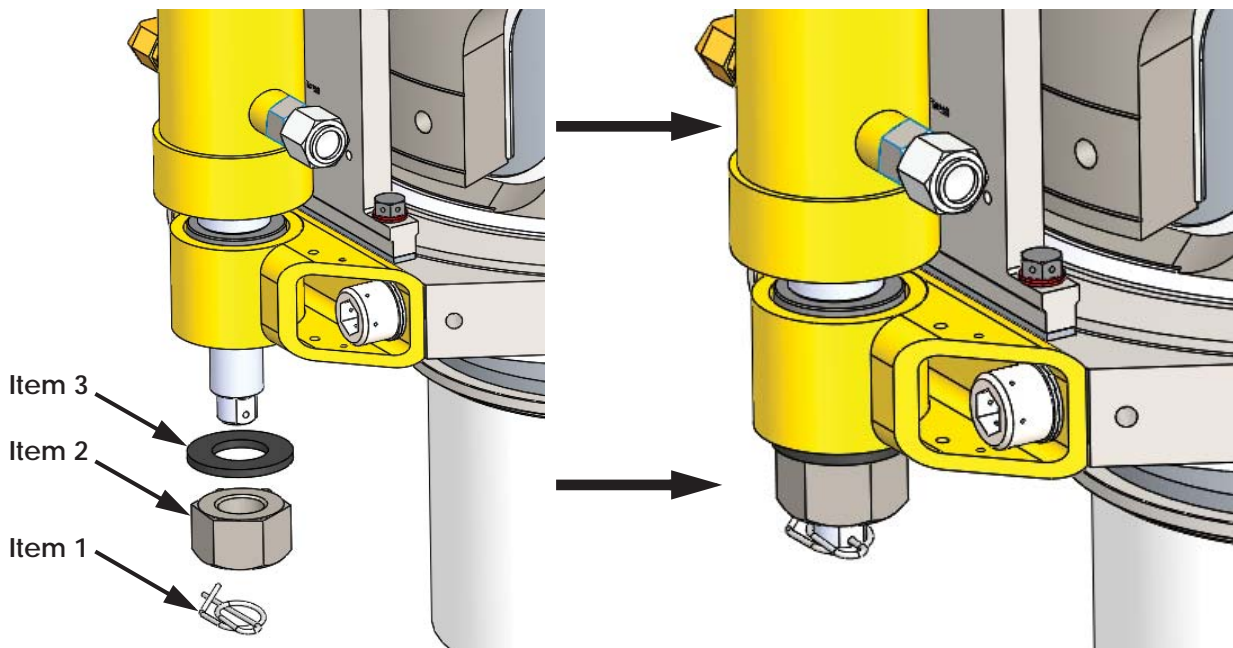

Figure 2: Cylinder Assembly
- Assemble washer (P/N: FW-1000-A), locknut (P/N: LN-1000NC-GR8), and locking cotter pin (P/N: M19770) on bottom of cylinder as shown in Figure 2.